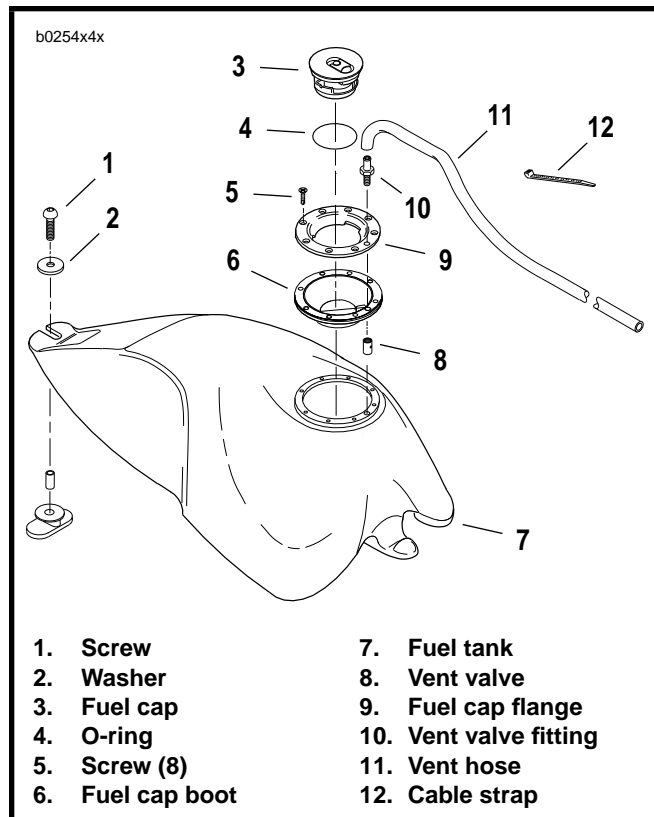
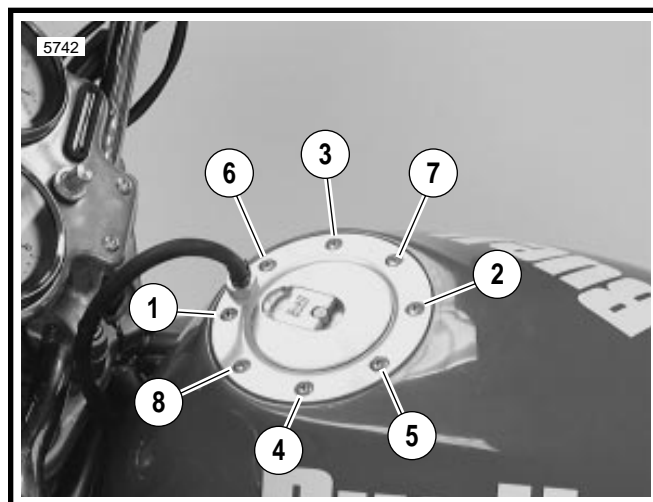

Figure 4-21. Fuel Tank
Figure 4-22. Tightening Flange
See Figure 4-21. The fuel tank is vented through a vent valve assembly within the tank. A vent hose connects to the vent valve fitting at the top of the fuel tank. The vent hose is then cable strapped to the left side of the vehicle frame.
4. See Figure 4-21. Remove cable strap (12) holding vent hose (11) to vent valve fitting (10). Disconnect vent hose from vent valve fitting.
6. Remove fuel tank screw (1) and washer (2).
2. See Figure 4-21. Remove fuel filler cap (3) and O-ring (4).
3. Remove vent valve fitting (10) and vent valve (8).
4. Remove self-tapping screws (5) from fuel cap flange (9).
5. Remove fuel cap flange and fuel cap boot (6).
- b. See Figure 4-22. Tighten screws to 22-25 in-lbs (2.5-2.8 Nm) in the order shown.
1. See Figure 4-21. Place fuel tank on frame. Install fuel tank screw (1) and washer (2). Tighten to 9-11 ft-lbs (12.2-14.9 Nm).